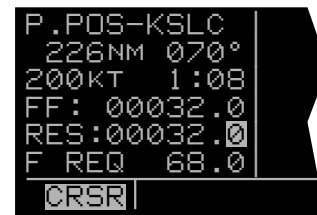

Figure 5-10
9. Use the left inner and outer knobs to enter the amount of reserve fuel (**RES**) desired when you reach the selected waypoint (figure 5-10). The estimated amount of fuel required (**F REQ**) to fly to the selected waypoint with the specified reserve is now displayed. Entering the fuel flow and reserve fuel on the TRI 1 page also inputs this same information on the TRI 3 and TRI 5 pages.